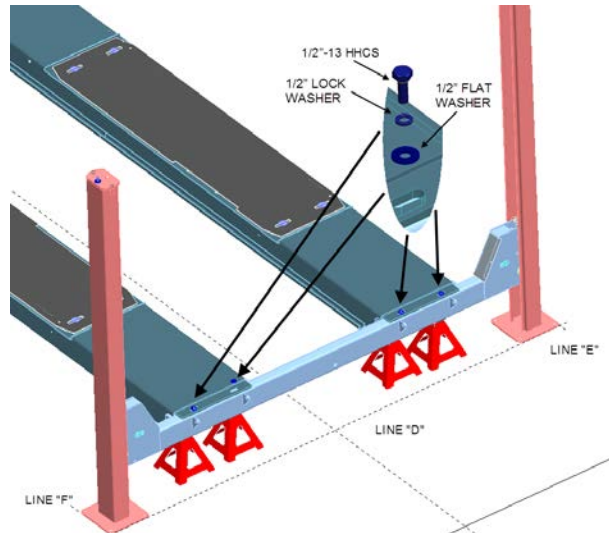

Figure 29
- Stand up towers, move into position at the back of the lift (see **Fig.2** and **Fig.29**), and line up with lines "F" and "D". As the cross-member is only restrained to the tower by safety locks, care must be taken when handling tower with cross-member.
- Support rear cross-member with a jack stand as shown (**Fig.29**). Stand should be placed close to tower.
- Bolt deck end to cross-member tube, using 1/2"-13 HHCS x 1-1/2" long bolts, 1/2" washers and 1/2" lock washers found in the hardware kit (**Fig.29**). **Do not tighten bolts.**